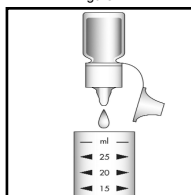

Figure 2
2. Add 7 drops of A-9200 Acidifier Solution (fig 2). Stir to mix the contents of the cup.